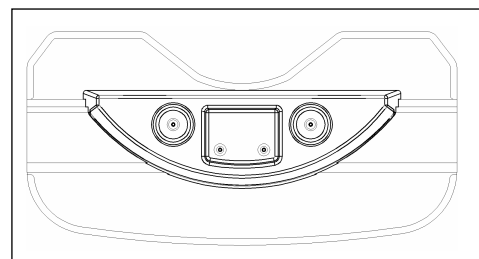

fig. 1
1. Place the Dash Tray on the raised portion of the cargo box, centered left to right. (fig. 1)